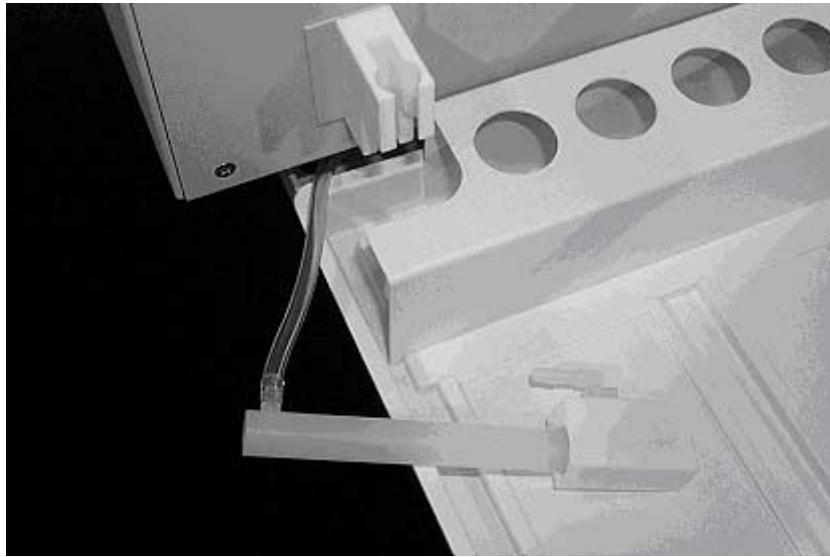

Figure 1-5. Removing the tray.
4. The auto sampler tray is the next to be removed. Lift up the tray and pull out. See Figure 1-5.